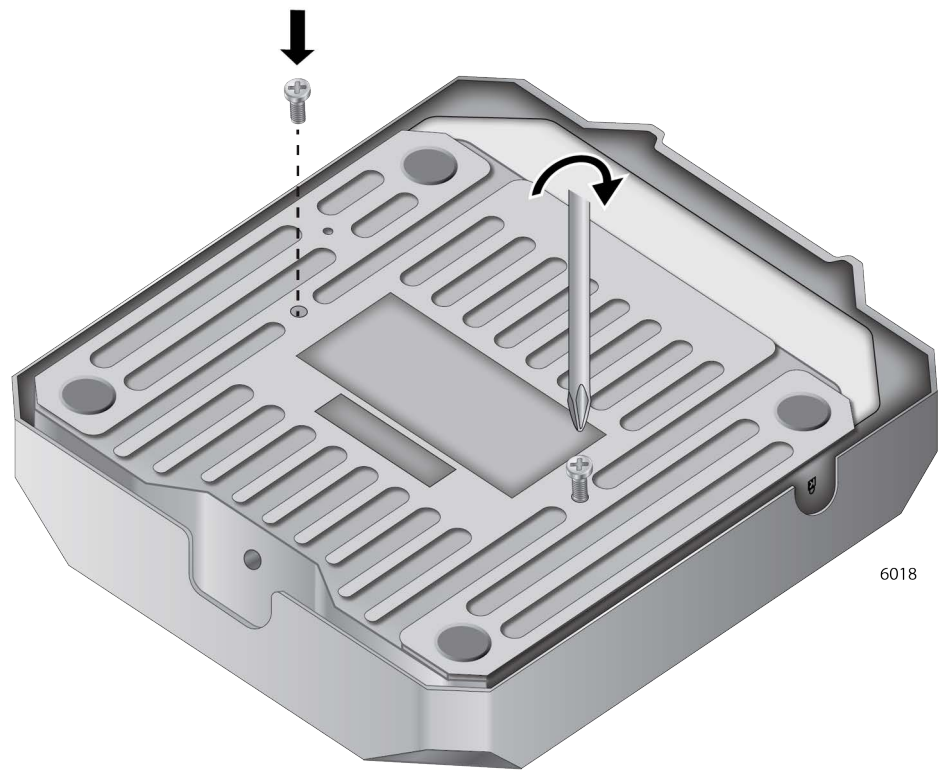

Figure 13. Attaching the Bracket Screws to the Access Point
2. Install the two screws (provided) fully into the bottom panel of the access point. See Figure 13.